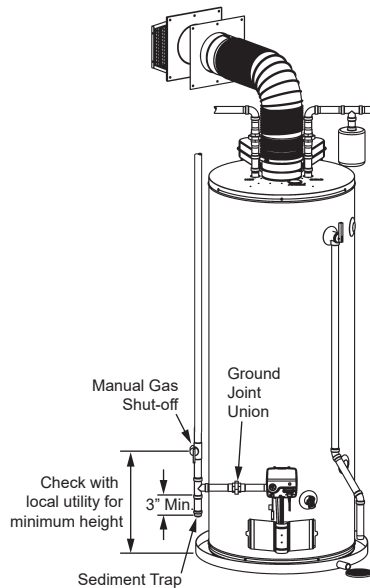

Figure 23 - Gas Piping
3. Install a ground joint union between the gas control valve and the manual gas shut-off valve. This is to allow easy removal of the gas control valve. **NOTICE:** a hard line connection is shown in Figure 23 (a flexible gas line connection may also be used).